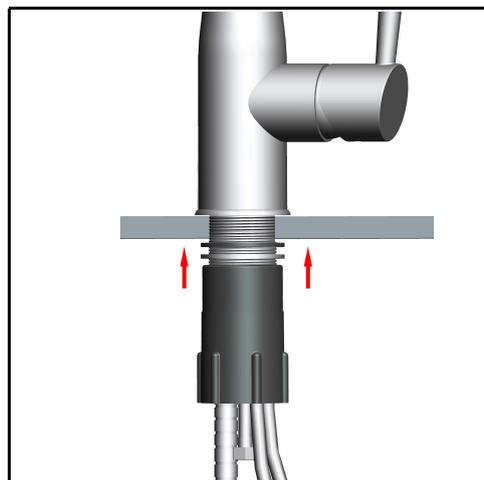

Figure 3
3. From underneath the deck/sink, slide the rubber washer followed by the ABS washer all the way up to the threaded shank (**Figure 3**).
4. Screw the black locknut all the way up to the threaded shank until it is tight (**Figure 3**).